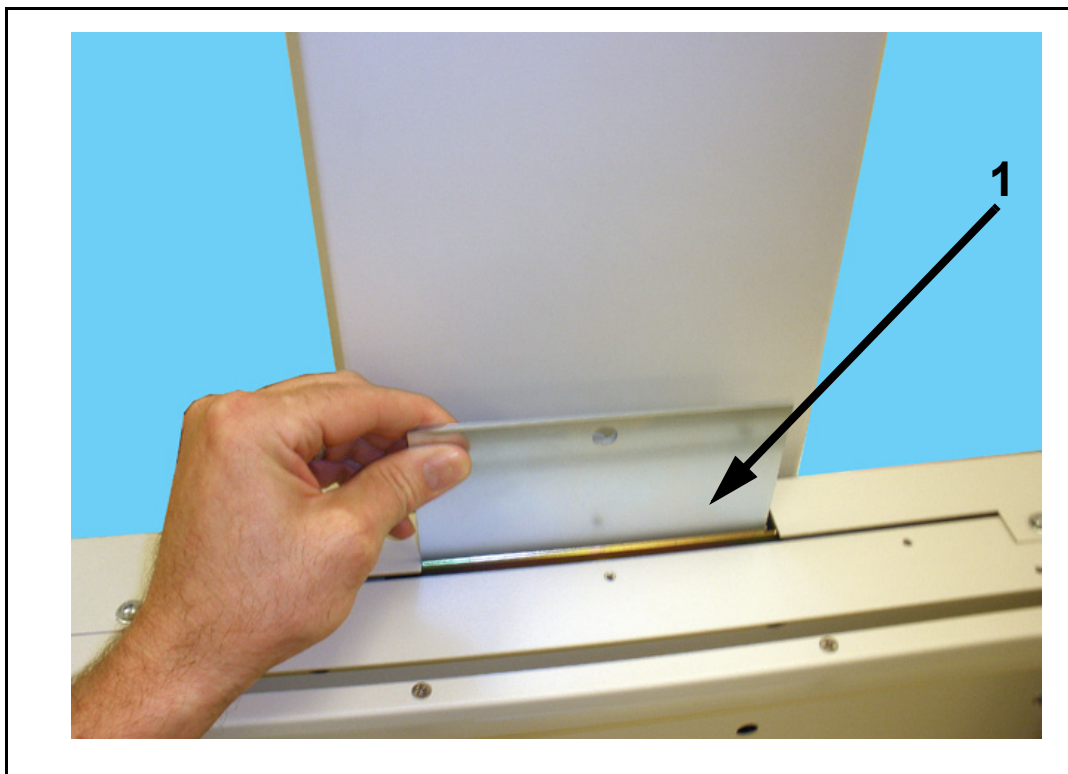

Figure E-19. Counterweights
- 21** Add counterweights (1 in Figure E-19) to balance wall stand movement.